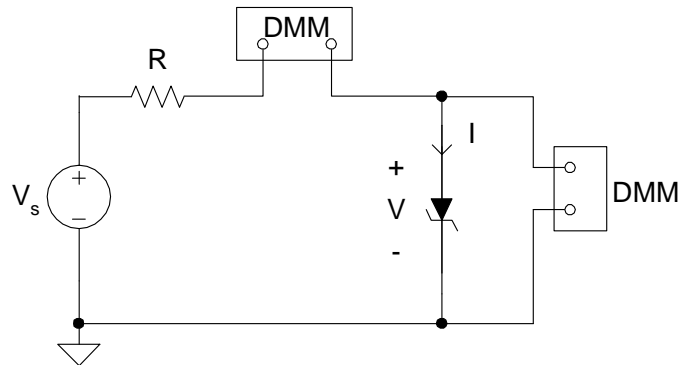

Figure 1 Zener diode characterization circuit.
2. With $R = 750 \Omega$, simulate the circuit shown in Fig. 1 with *Advanced Design System*. Plot the diode voltage and current over the complete region of operation extending from well into breakdown, through the reverse bias region, and well into the forward bias region.
- (a) Choose a resistor R in the range of 500Ω to $1,000 \Omega$ and measure its resistance as accurately as you can. Construct the circuit shown in Fig. 1. Measure the diode voltage and current over the complete region of operation extending from well into breakdown,